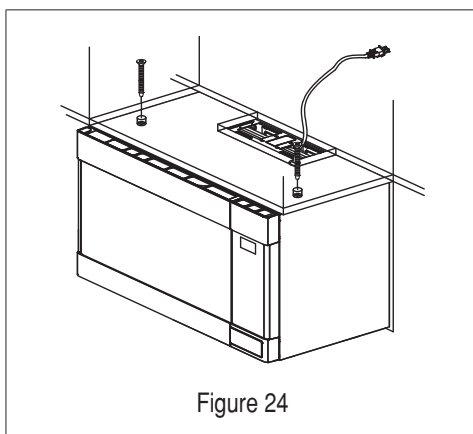

Figure 24
- Then insert a bolt down through each hole in the upper cabinet bottom. Tighten the bolts until the gap between the upper cabinet and microwave oven is closed. See Figure 24.